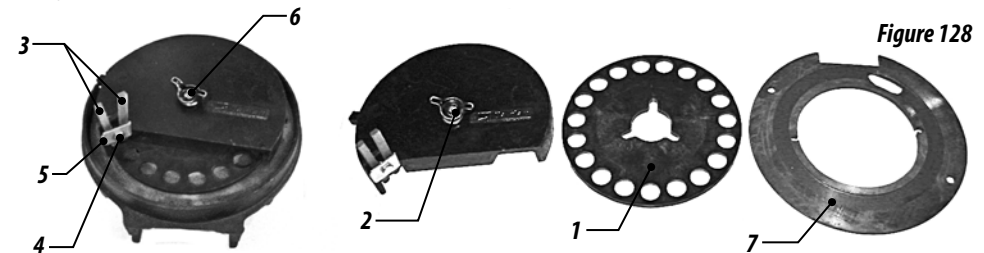

Figure 128
28 - For peanut crop, the kit consisting of distribution disc with 19 holes of 3/4" x 6 mm (1) is used, internal flow adjustment (2), seed droppers (3), clamp (4), screw, washer and nut (5), wing nut and washer (6) and bifacial clutch disc (7), figure 128.